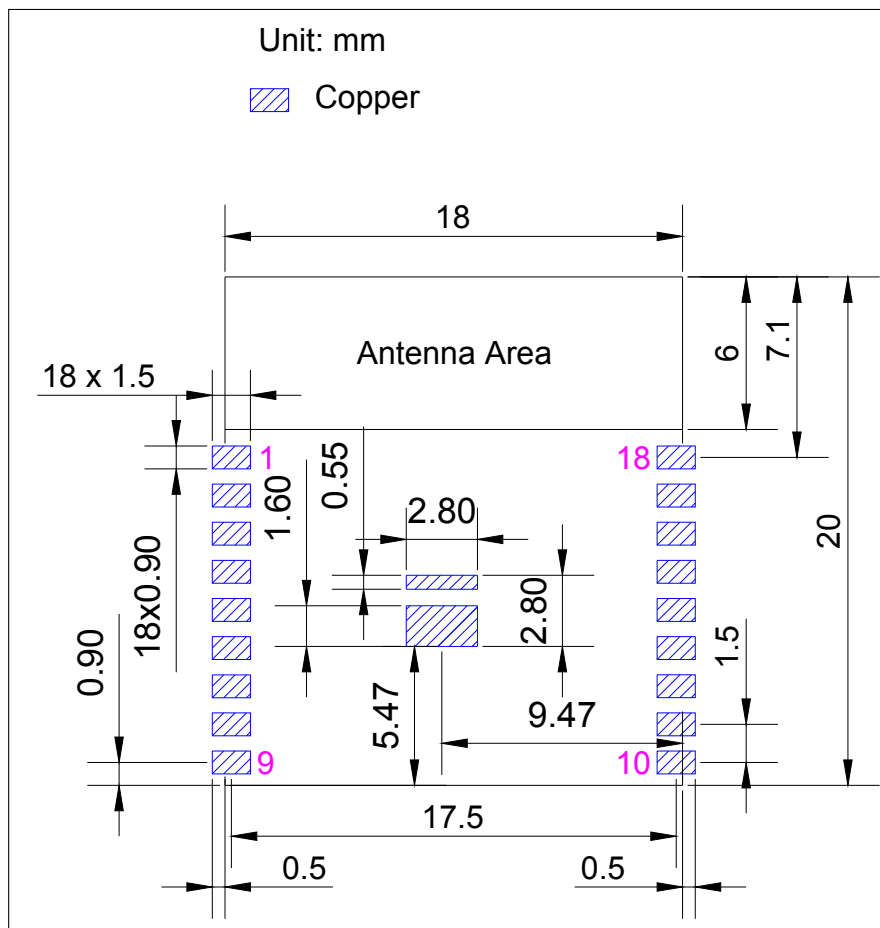
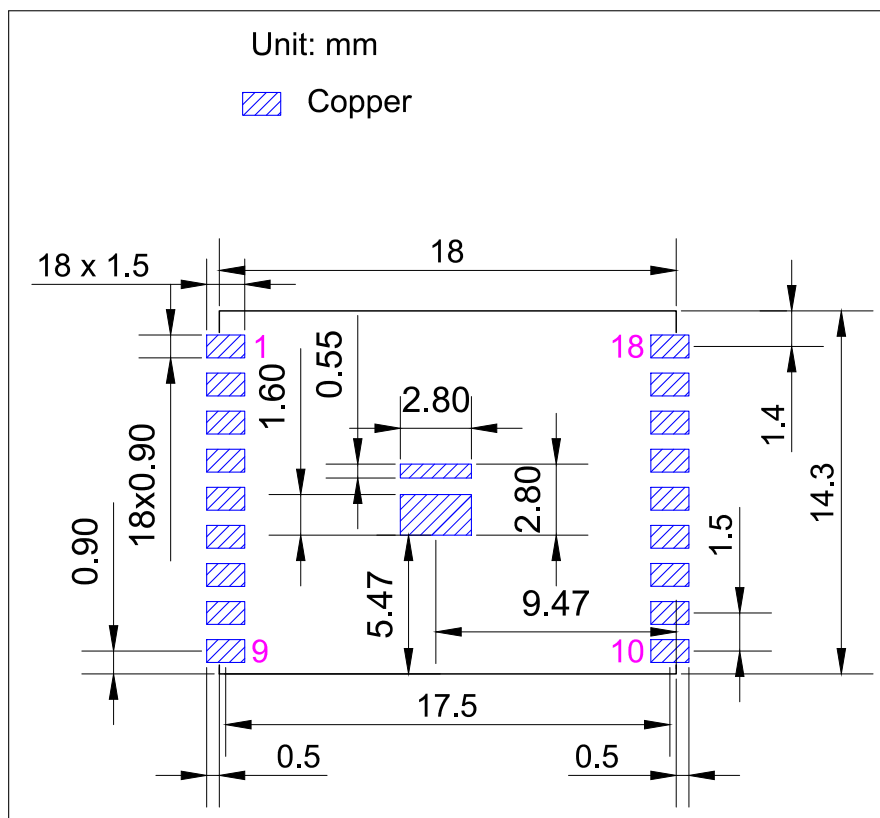

Figure 11: ESP8684-WROOM-02C Recommended PCB Land Pattern
Figure 12: ESP8684-WROOM-02UC Recommended PCB Land Pattern
- Figures for recommended PCB land patterns with all the dimensions needed for PCB design. See Figure 11 *ESP8684-WROOM-02C Recommended PCB Land Pattern* and Figure 12 *ESP8684-WROOM-02UC Recommended PCB Land Pattern*.
- Source files of recommended PCB land patterns to measure dimensions not covered in Figure 11 and Figure 12. You can view the source files for ESP8684-WROOM-02C and ESP8684-WROOM-02UC with Autodesk Viewer.